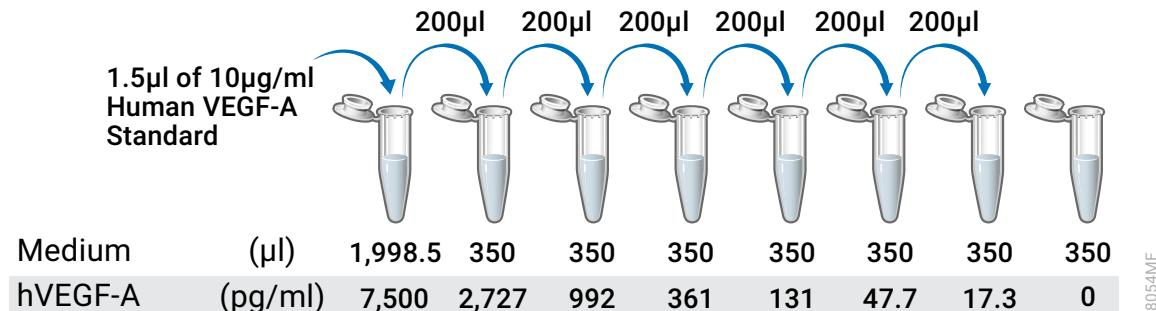

Figure 3. Human VEGF-A dilution series.
3. Prepare an initial concentration of 7,500pg/ml human VEGF-A by diluting Human VEGF-A Standard (10μg/ml) 1:1,333 in prewarmed cell culture medium. For example, prepare 2,000μl of 7,500pg/ml human VEGF-A by adding 1.5μl of the Human VEGF-A Standard stock to 1,998.5μl of culture medium (see Figure 3).
3. Prepare an initial concentration of 7,500pg/ml human VEGF-A by diluting Human VEGF-A Standard (10 μ g/ml) 1:1,333 in prewarmed cell culture medium. For example, prepare 2,000 μ l of 7,500pg/ml human VEGF-A by adding 1.5 μ l of the Human VEGF-A Standard stock to 1,998.5 μ l of culture medium (see Figure 3).